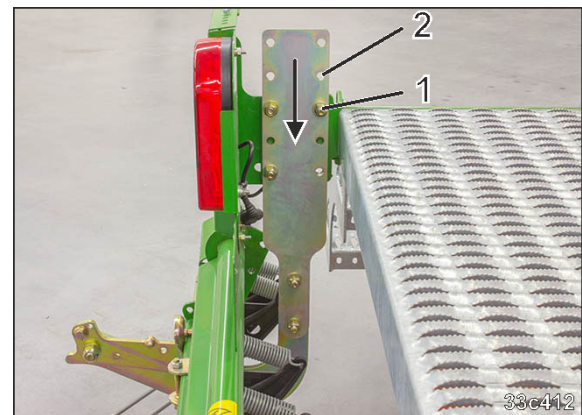

Fig. 188
- 2.1 Loosen the bolts (Fig. 188/1).
- 2.2 Move the holder to a new hole (Fig. 188/2).